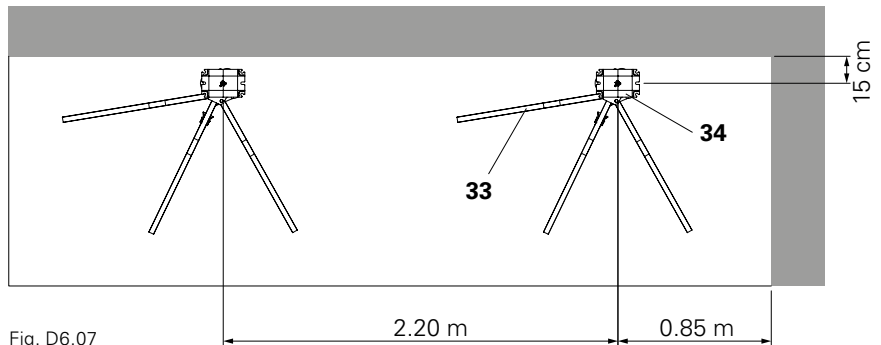

Fig. D6.07
- Set up the first slab prop with a 0.85 m gap to the front wall and the second slab prop at a distance of 2.20 m from the first. (Fig. D6.07)